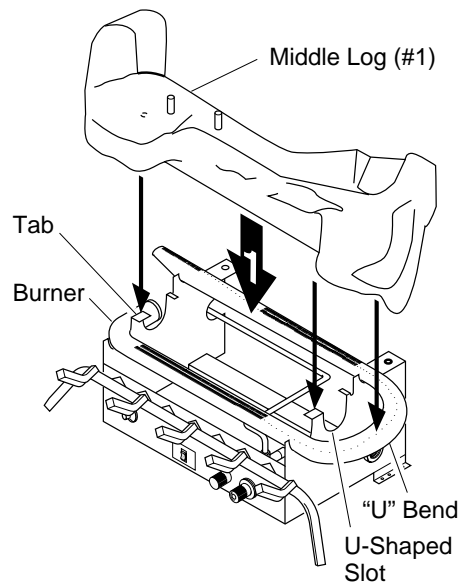

Figure 25 - Installing Middle Log (#1)
1. Place the base of the middle log (#1) in the U-shaped slots of the grate base. The cutout on the right of the middle log should sit over the burner (see Figure 25). Make sure the front of the middle log is resting on the tabs of the grate base and the cutout area is centered over the burner "U" bend.